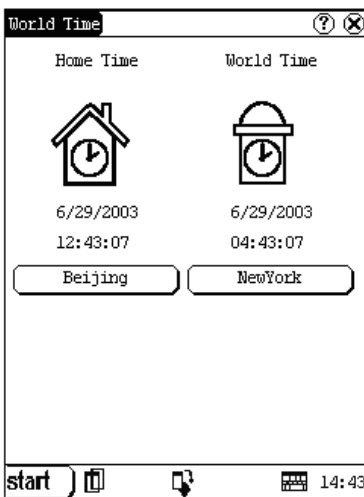

Fig 4-8
- 4) Then you can see the time directly. (See Fig 4-8).